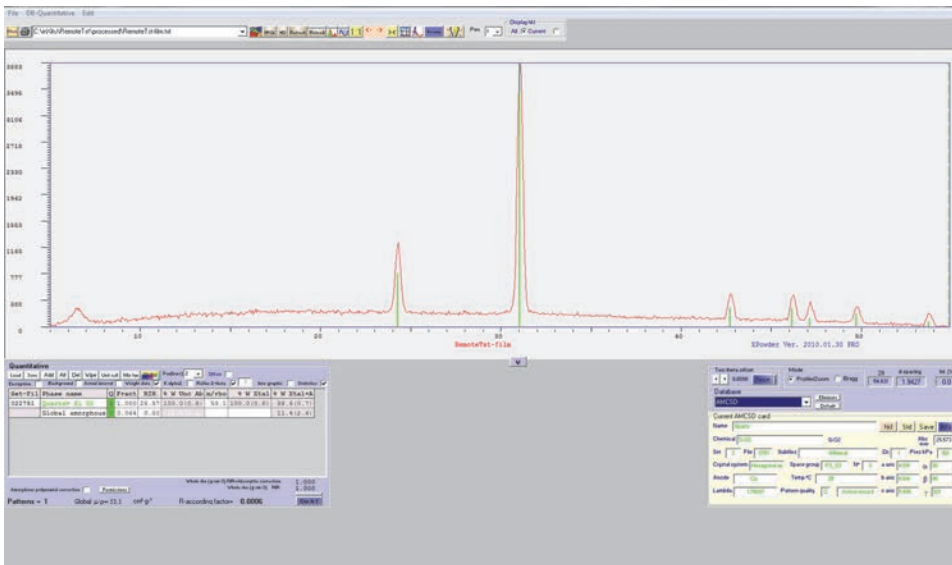

Figure C-11 Quantitative screen
- In the X Powder window, click **Quantitative > LS-RIR Database Cards** to view a relative intensity ratio semiquantitative analysis and summary (see Figure C-11 on page 96).
| Figure C-11 | Quantitative screen | 96 |